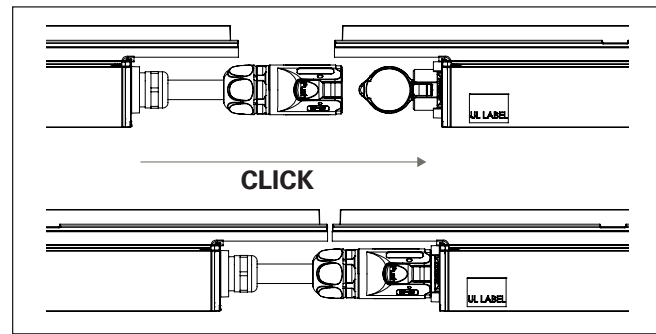
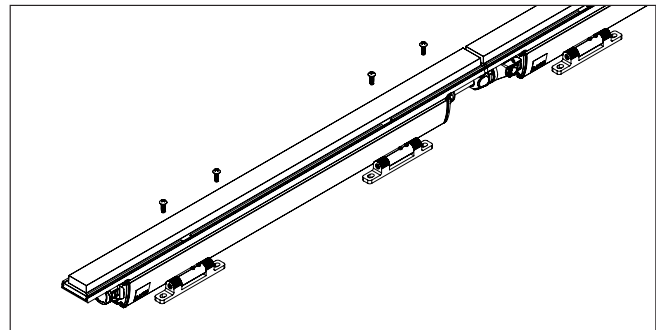

Figure 6
Figure 7
8. Once fixtures are placed correctly, fixtures can be connected. (See Figure 6). Self closing end cap of female connector must be opened for connection. Fixtures must **CLICK** together to ensure secure connection of fixtures along the run. Fixtures can be secured to the surface using appropriate hardware (supplied by others) as each connection is made if desired. (See Figure 7).